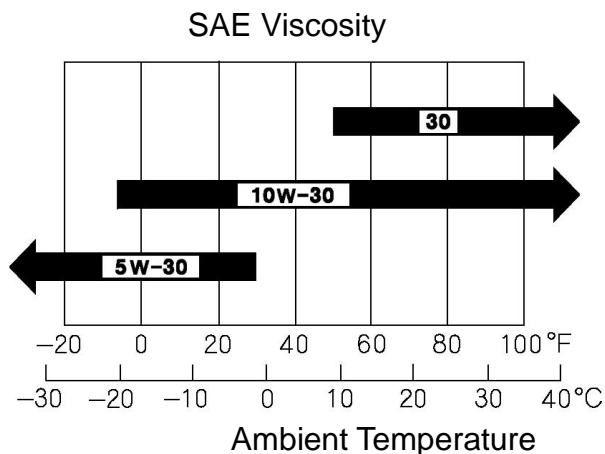

Fig 4-8
2.3.4. Recommended oil type: 4-stroke engine oil. (For normal operations at normal temperature, oil grade SAE 10W-30 is recommended.) (Fig 4-8)